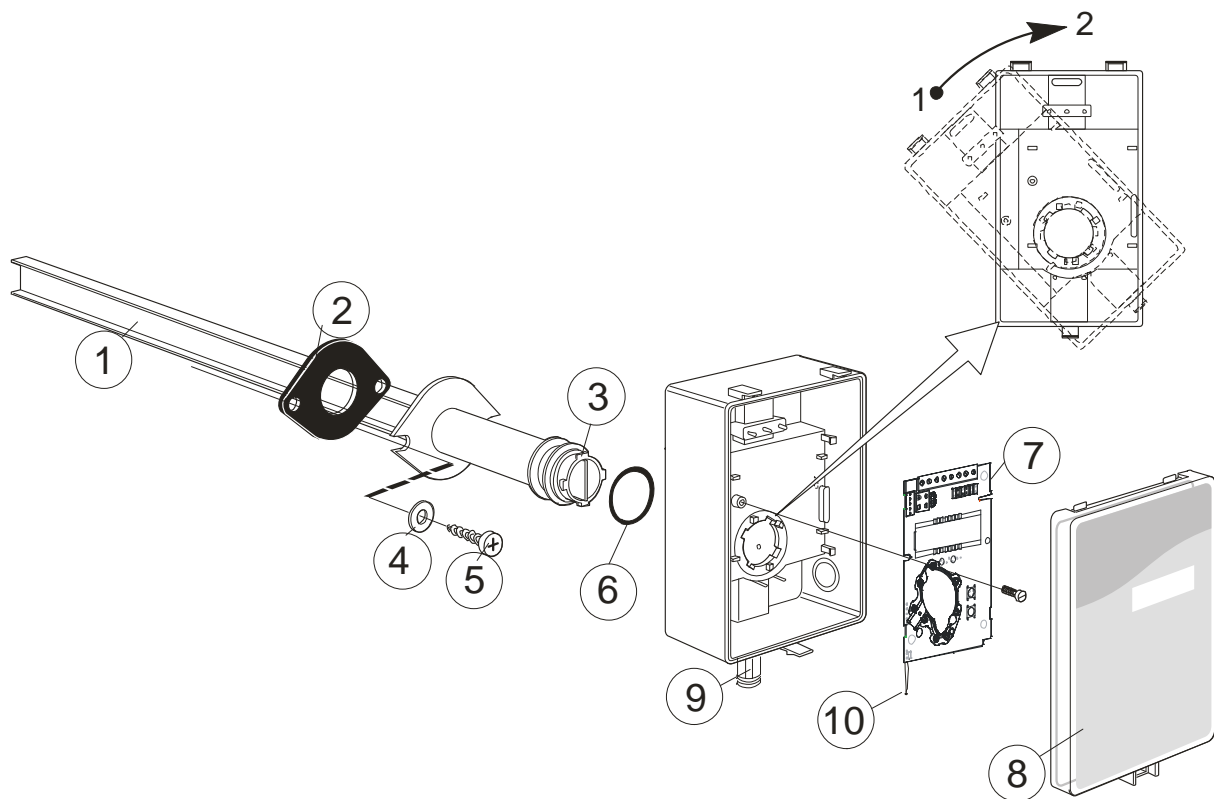

Figure 1
- 2) **Mounting the tube:** Drill a hole (10) with 25 mm diameter (or 1 inch) for the sampling probe and two holes with 4 mm diameter for the screws (5) into the air duct and mount the tube (1) with the gasket (2). The sampling probe should be mounted with the largest locking knob on top. The unit can be mounted with the air coming from the left or right.
- 3) **Attaching the sensor box** is made to the sampling probe by a snap-in bayonet fitting. First, carefully stick the temperature probe (11) into the sampling probe. (1). Orient the box onto the sampling probe so that the box upside is on the same side as the largest locking knob (3). When the probe is fitted into the notches of the box, then turn the box clockwise until stop (see Figure 1). Position 1 indicates *open* where the box can be removed from the sampling probe. In position 2 the box is locked to the probe.